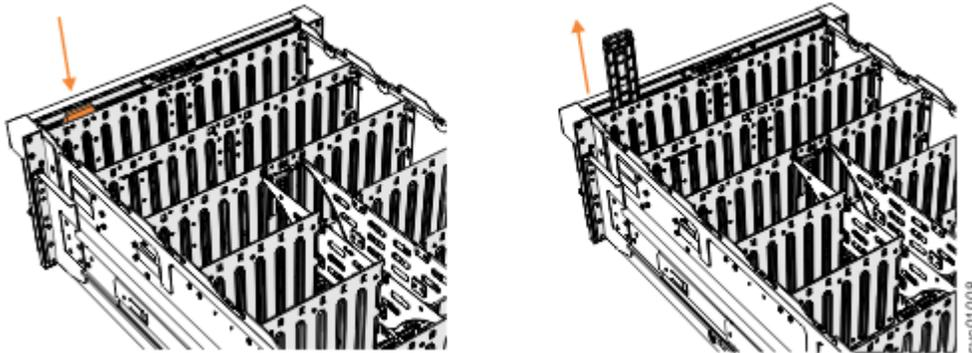

Figure 161. Removing the display panel assembly
3. Press the release tab at the top of the display panel assembly, as shown in Figure 161 on page 218.